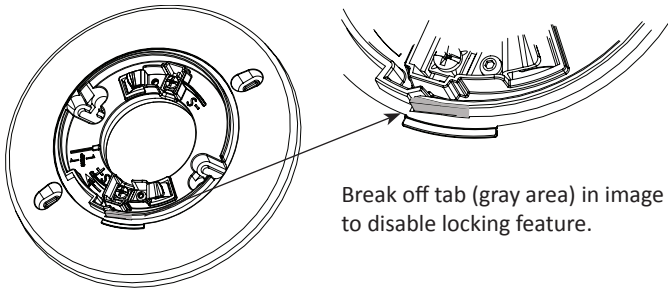

FIGURE 7: Disable Locking Feature
- The locking feature can be disabled. To disable the locking feature, break off the locking tab before installation (FIGURE 7).